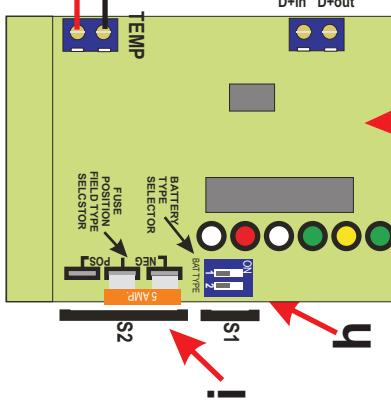

Fig.3
2) Remove the Regulator lid, inside you will see the circuit board with a 2 pin dip switch and a large fuse: See **fig 3** , **i** = large fuse and **h** = dip switch